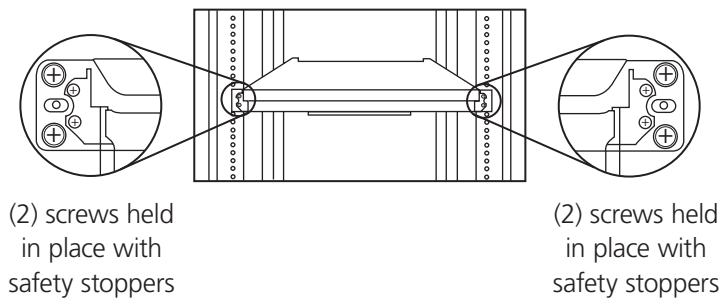

Figure 3-10. Removing the four screws.
7. Remove the four screws held in place with safety stoppers from the front sides of the drawer (left and right) in sequence from 1–4. See Figure 3-10.